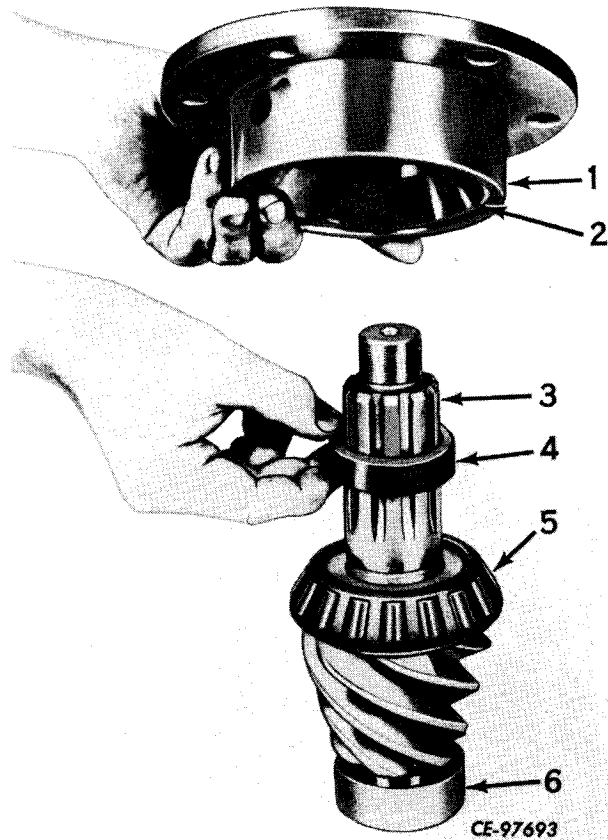

Figure 6-34
Support pinion cage (1, Fig. 6-34) with blocks and press out pinion shaft. If necessary, remove bearing cups (2) from cage using a suitable puller.